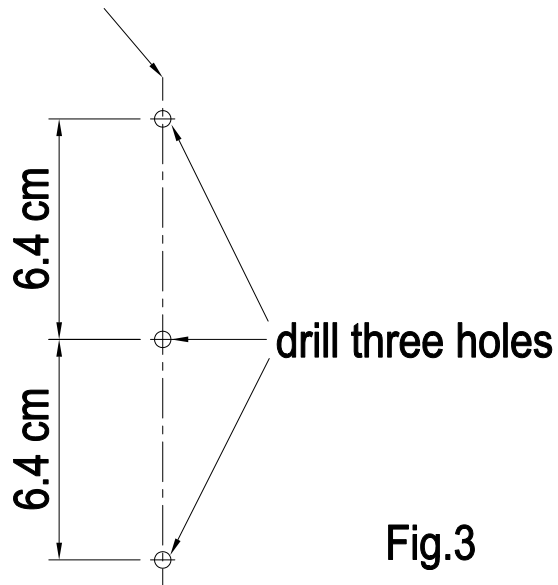

Fig.3
2. Drill three holes into the vertical line with a 6.4cm gap in between each hole (Fig.3).